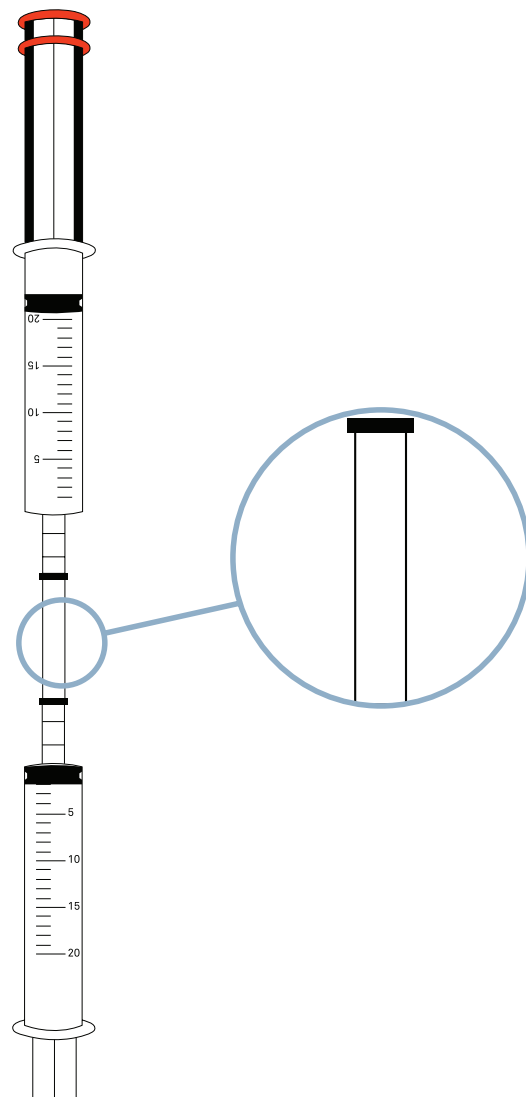

Figure 8 Connect the syringes
9. Connect the two syringes and the tensiometer shaft (Figure 8).